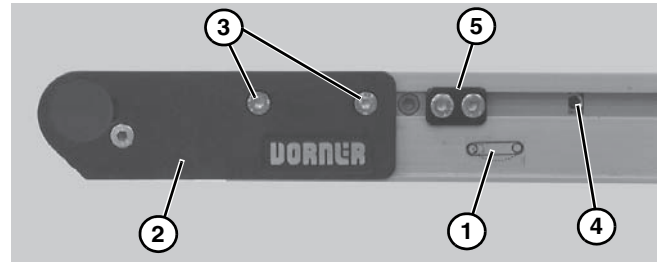

Figure 32
1. On tension end of the conveyor, identified with a  label (Figure 32, item 1), adjust head plate assembly (Figure 32, item 2): On both sides of conveyor, loosen fastening screws (Figure 32, item 3) and rotate pinion gear (Figure 32, item 4) to adjust head plate assembly.